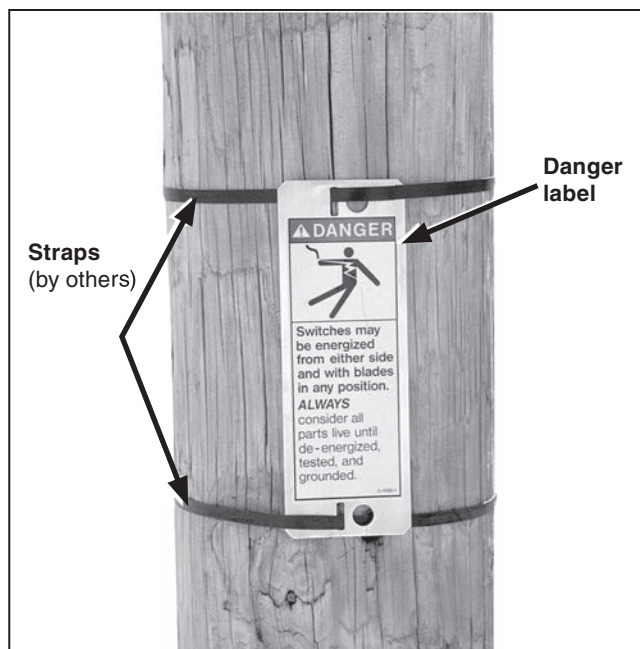

Figure 35. Attaching the danger label to the pole or structure.
STEP 25. Attach the danger label to the pole or structure using two straps or bolts (furnished by others). See Figure 35.